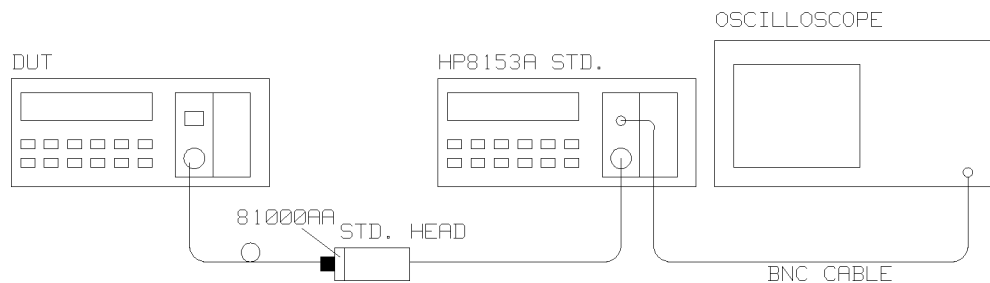

Figure D-1. Performance Test Setup
4. Connect the equipment as shown in Figure D-1.